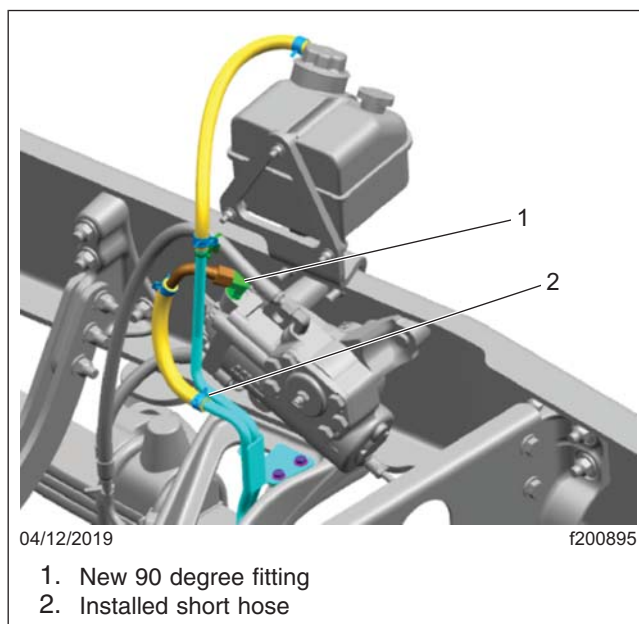

Fig. 5, New Layout Overview
10. Remove the fitting in the top of the steering gear and install new 90 degree fitting (part no: 23-11000-801). Torque the jam nut on the pressure line fitting to 37 lb·ft (50 N·m). See Fig. 5.
11. Install a new short hose on the 90 degree pipe. See Fig. 5.